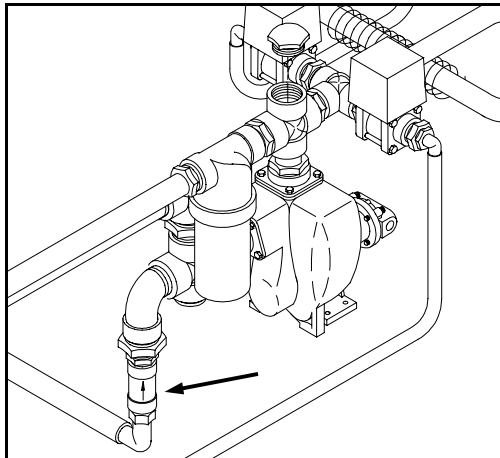
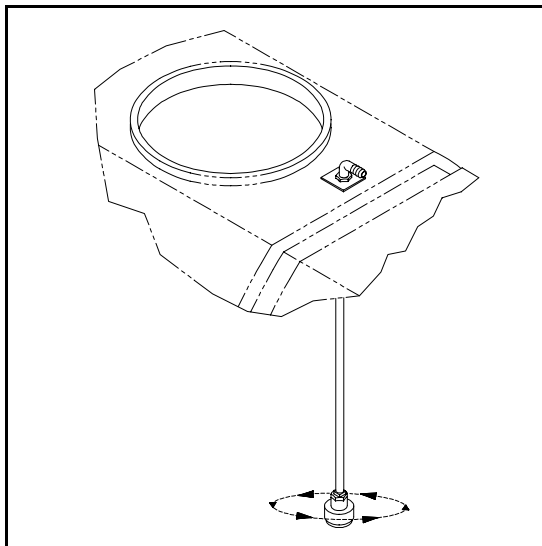

FIG 5.95
FIG 5.96
Rinse solution flows from the rinse tank to the solution pump. The rinse passes through a flow-check valve (fig. 5.95). The valve keeps the rinse line clean from spray solution when the rinse system is idle. The solution pump pumps the rinse through a rotary nozzle into either solution tank (fig. 5.96).
The sprayer wand is located between the foam tank and the rinse tank (fig. 5.102). Spray pressure is indicated by the gauge mounted above the pressure pump (fig. 5.96, item 1).